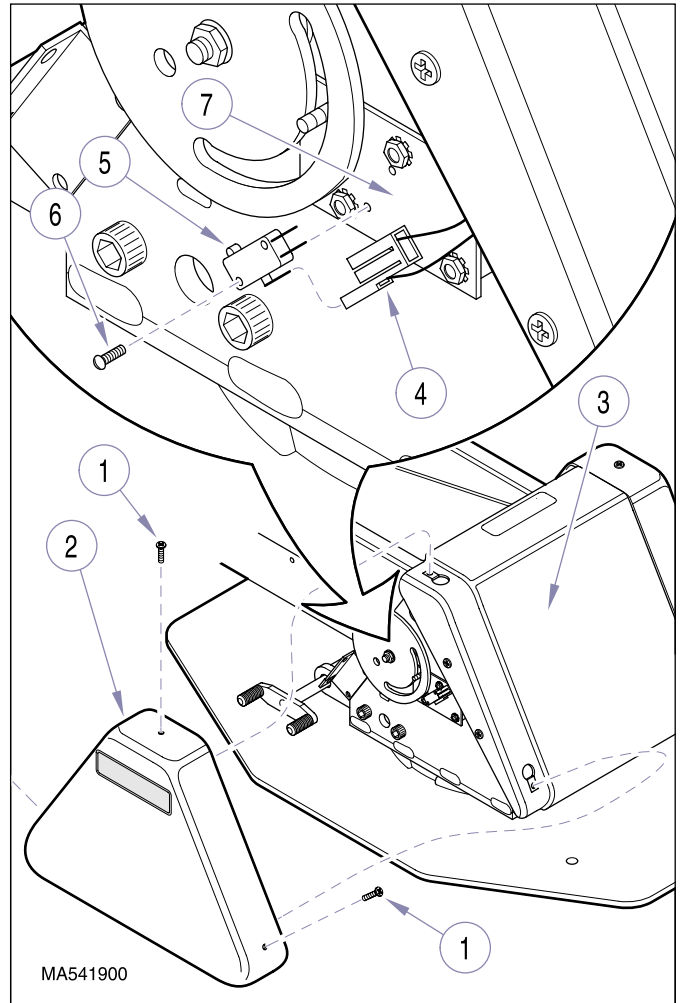

Figure 4-16. Base Up Program Limit Switch Removal / Installation
- (1) Remove three screws (1, Figure 4-16) and L.H. base cover (2) from center base cover (3).